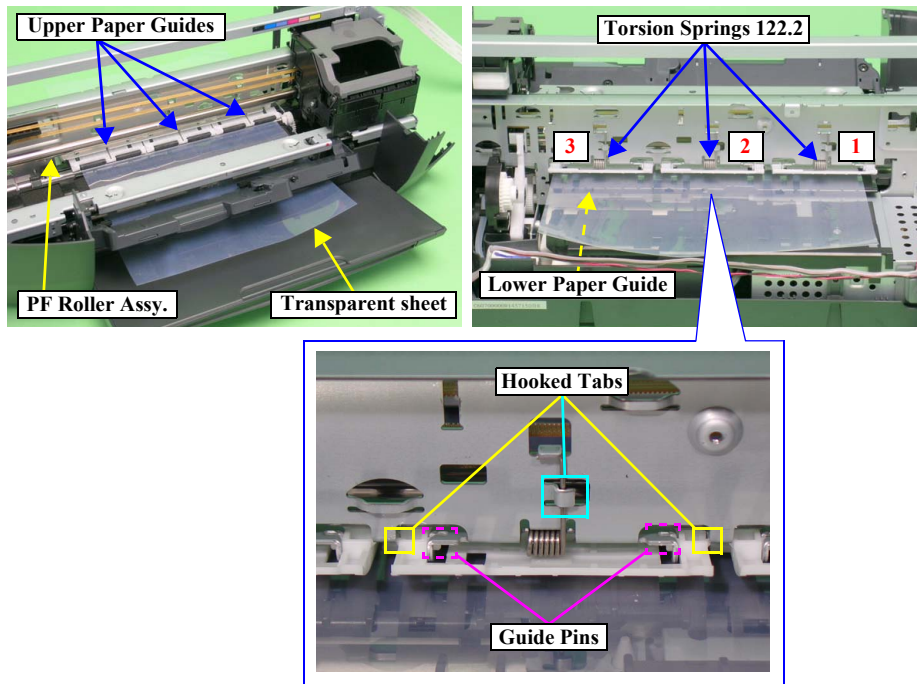

Figure 2-53. Removing the Upper Paper Guide
- Attach the Upper Paper Guide in the order shown in Figure 2-53.
□ Illustration (1)